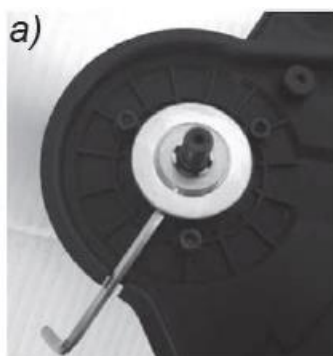

Fig. 4a
4.3 Insert the Allen key through the receiving washer into the recess of the bevel gear. Rotate the shaft until the pin enters the gear. The drive shaft will be locked. (Fig. 4a)
2. Insert the Allen key through the receiving washer into the recess of the bevel gear. Rotate the shaft until the pin engages the gear. The drive shaft will be locked. (Fig. 4a)